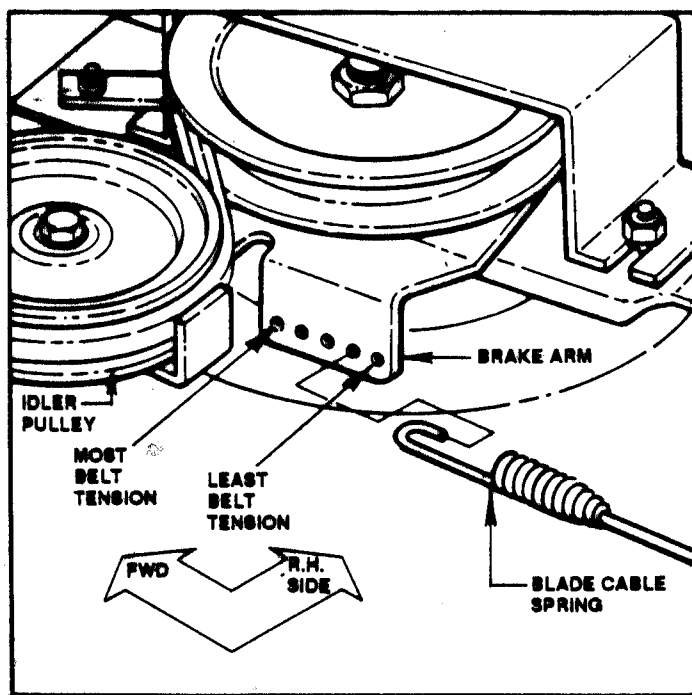

FIGURE 20A
3. Remove BLADE CABLE spring from hole in BRAKE ARM. Reattach spring in next hole forward. See Figure 20A.